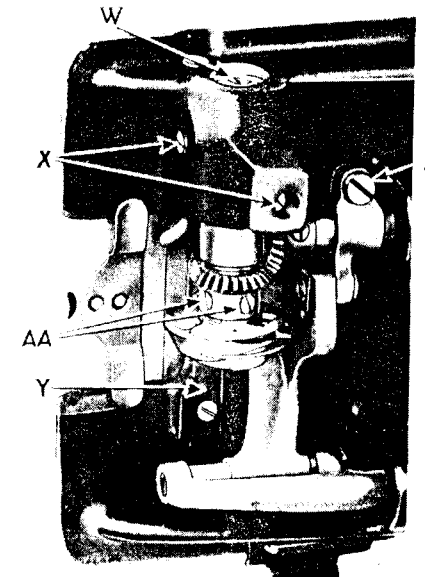

Fig. 19.
Remove the throat plate; clean the lint and dirt from between the feed points and replace the throat plate; tip the machine back and turn the balance wheel toward you until the feed dog is at its highest position; loosen screw (Z, Fig. 19) and raise or lower the feed dog as required, then tighten the screw (Z).
The point of the hook should come as close as possible to the needle without touching it. Loosen the four screws (X and AA, Fig. 19) and slide the hook to the correct position, then tighten the two screws (X). Reset the gear on the hook shaft and tighten screws (AA).
Remove the bobbin case stop (Y, Fig. 19), loosen the hook spindle screw (W) a few turns and tap it lightly to loosen the hook. Then remove the screw (W) and withdraw the hook from its socket.